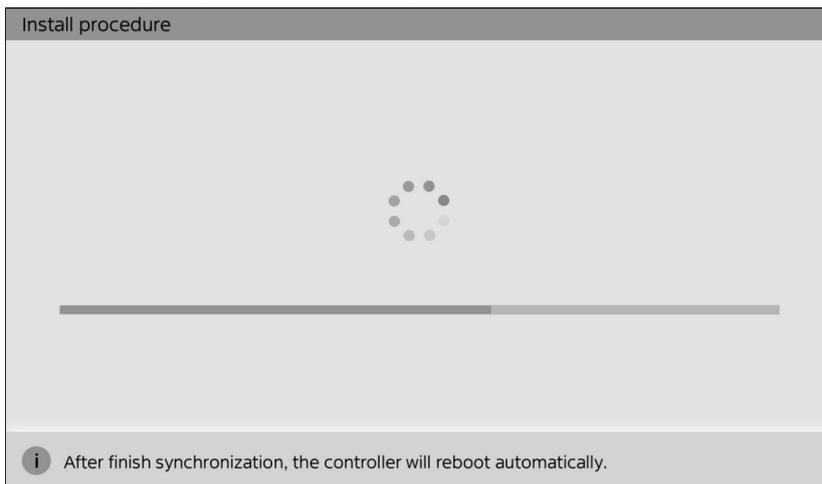

Fig 2.2
2. The touch controller will start synchronizing. Please wait until the synchronization is complete and do not turn off the power during this process (refer to Fig 2.2).